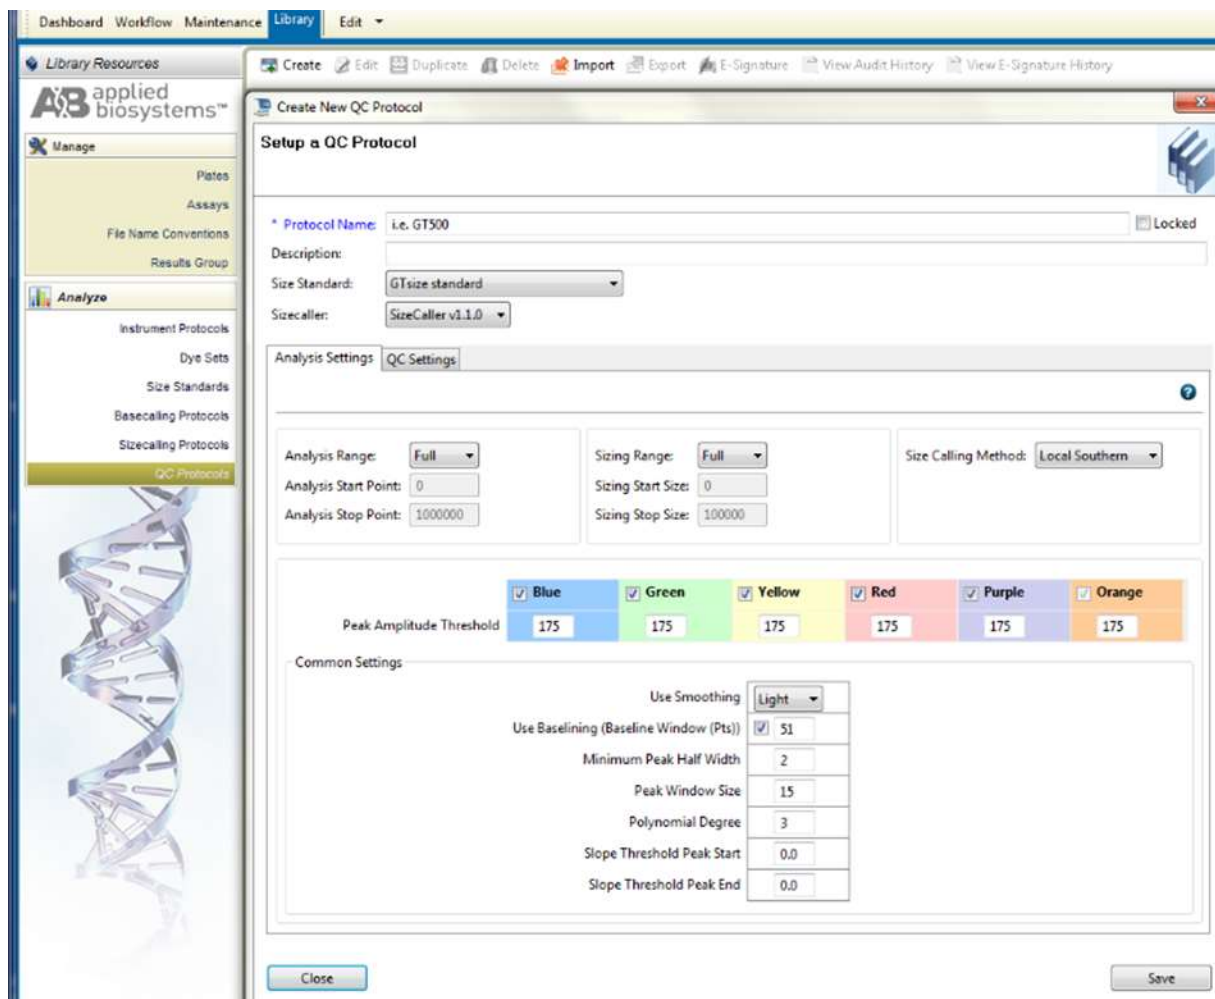

Figure 7. Screenshot for the “Create New QC Protocol” window on Applied Biosystems® 3500 Data Collection software
- c) select “Create” (Figure 7)
- d) in the *Create New Assay* window, as shown in Figure 7, choose the *Instrument Protocol* created in Step 3.1.1 and the *QC Protocol* created in Step 3.1.3